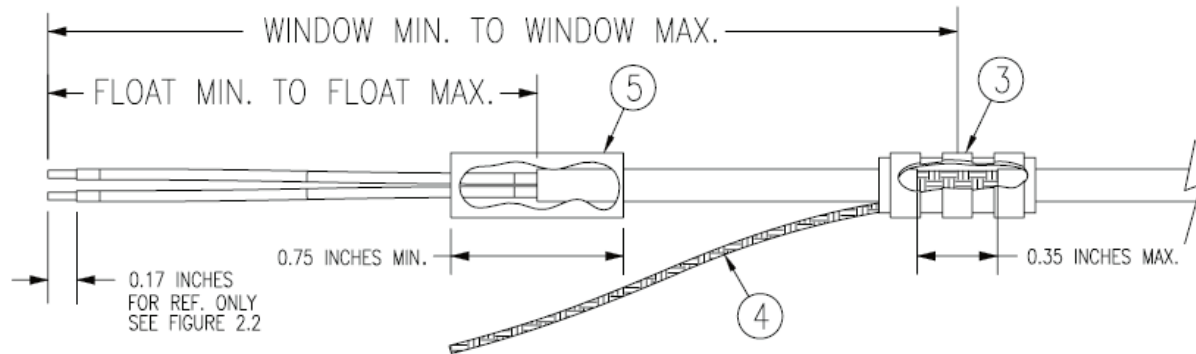

Figure B-2 Method A.1 for Shield Termination
2. At one end of a shielded cable (Item 4) measure a distance between “Window Min” to “Window Max” (Table B-6) and cut a window (max size 0.35”) in the jacket to expose the shield (Figure B-2). Use caution when cutting the jacket to avoid damaging the individual braids of the shield. When dealing with a densely populated connector with many cables, it may prove beneficial to stagger the windows throughout the “Window Min” to “Window Max” range. If staggering is not needed the “Ideal Window” length is recommended.
3. Connect a Flat Braid (Item 6) to the shield exposed through the window of the prepared cable assembly (Item 4) from step 2. The Flat Braid should go out the front of the termination towards the connector. It is not permitted to exit the rear of the termination and loop back towards the connector (Figure B-2). Make this connection using an approved shield termination technique.
4. At the same end of the shielded cable (Item 4) and ahead of the previous shield termination, strip back “Float Min” to “Float Max” (Table B-2) length of jacket and shield to expose the insulated center conductors (Figure B-2). The “Ideal Float” length may be best to build optimally.